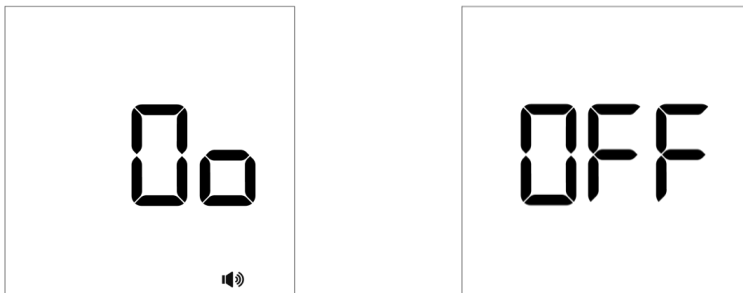

Fig 5.20
- Press the right or left button to select “On” or “OFF” to set the sound. The sound will be turned on and sound symbol will appear on display if “On” is selected.(Ref Fig 5.20)